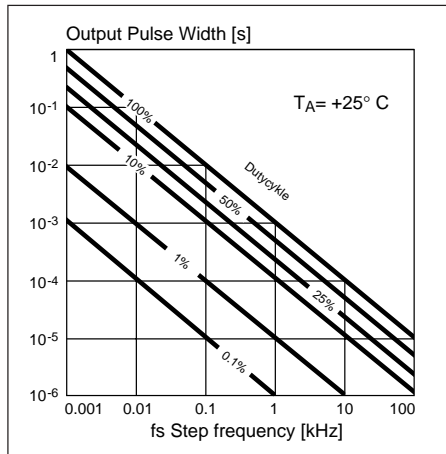

Figure 9. Typical  $t_{on}$  vs.  $f_s/dc$ . Output pulse width vs. step frequency/duty cycle.
- Figures 9 and 10 give the relationship between motor currents and their dissipations. The sum of these power dissipations must never exceed the previously-established value, or life expectancy will be drastically shortened.
- When no bilevel or voltage doubling is utilized, the maximum motor current can be found directly in figure 9.